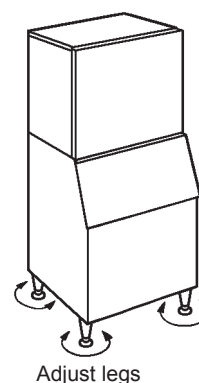

Fig. 7
9) Adjust the four legs on the bottom (adjustable from 0 to 25.4 mm) to have the icemaker perfectly horizontal. Use the spirit level. See Fig. 7.